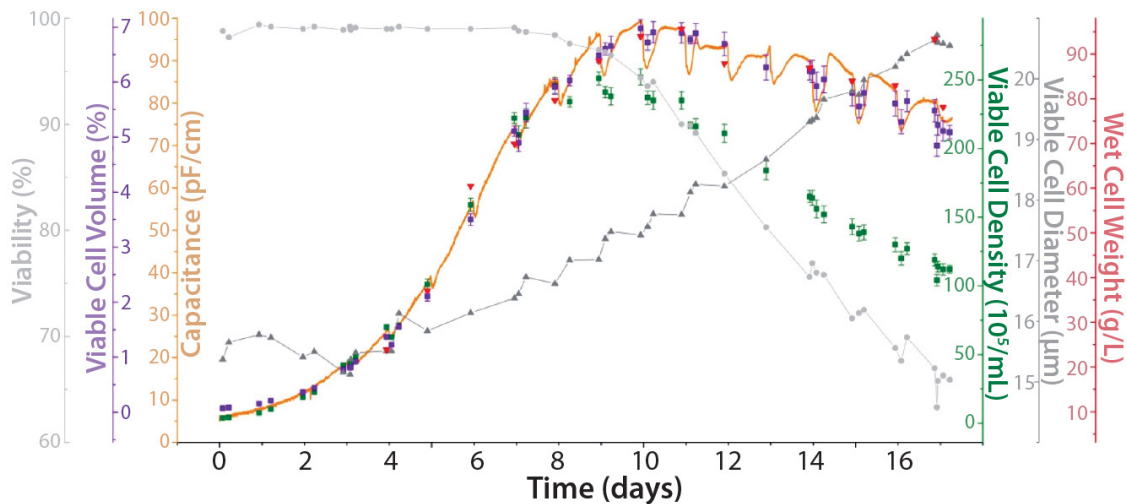

Figure 4: Comparison of at-line and in-line methods of measuring VCC with viable cell volume, (published with kind permission from Sartorius)
Another reason for the differences in VCC seen with capacitance and off-line and at-line measurements is also because cell size changes can affect VCC measurements. In a study by scientists at Sartorius (5) of CHO cells cultured for 15-days in rocking motion single-use bioreactor, capacitance using a BioPAT® Viameass sensor (Sartorius) was compared with VCC measurement using the trypan blue dye exclusion method (Cedex Bio® Analyzer) and wet cell weight. The results (Figure 4) show that during the exponential phase (6 days) capacitance measurements correlate well with both VCC and viable cell volume (VCV). However, when the average cell diameter increases, VCC measurements differ but the correlation with calculated biomass volume is maintained to the end of the run. This demonstrates that capacitance is proportional to the volume of viable cell membranes, and shows every biomass change during the culture run. These results indicate that capacitance is an accurate method of monitoring viable biomass.